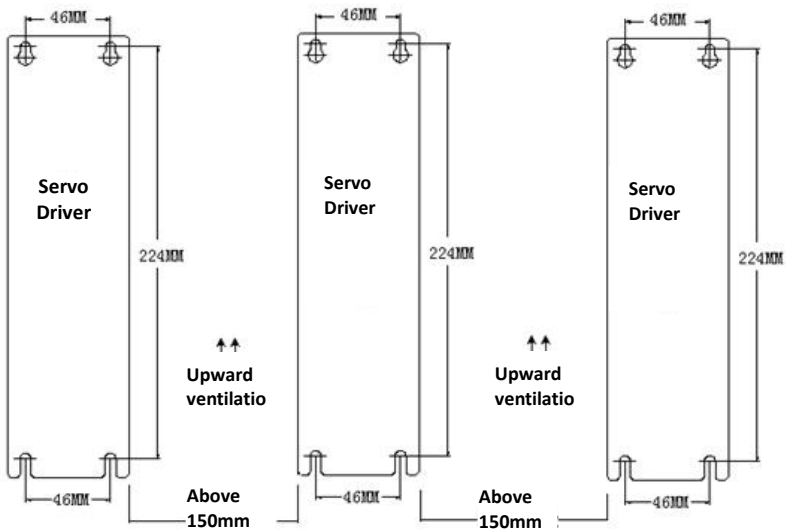

Figure 1.3 Direction of Installation
- I. Pay attention to the direction of installation (Figure 1.3).
- II. Pay attention to the spacing of installation (Figure 1.3).
- III. Four (4) M5 bolts can fix the servo driver with a spring washer added.